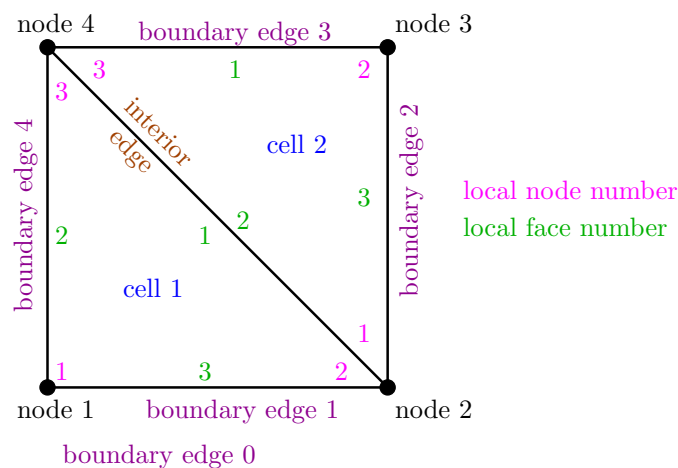

Figure 4: Sample mesh with definitions of various quantities.
Figure 4 defines key terms and conventions in the description of an unstructured triangular mesh. Note that: (1) the three nodes that define a cell (element) are ordered counterclockwise; (2) on an interior edge defined by two nodes (n_1, n_2), the left element is the one that is on the left as we traverse the edge from n_1 to n_2 ; and (3) local edge i in an element is opposite local node i .